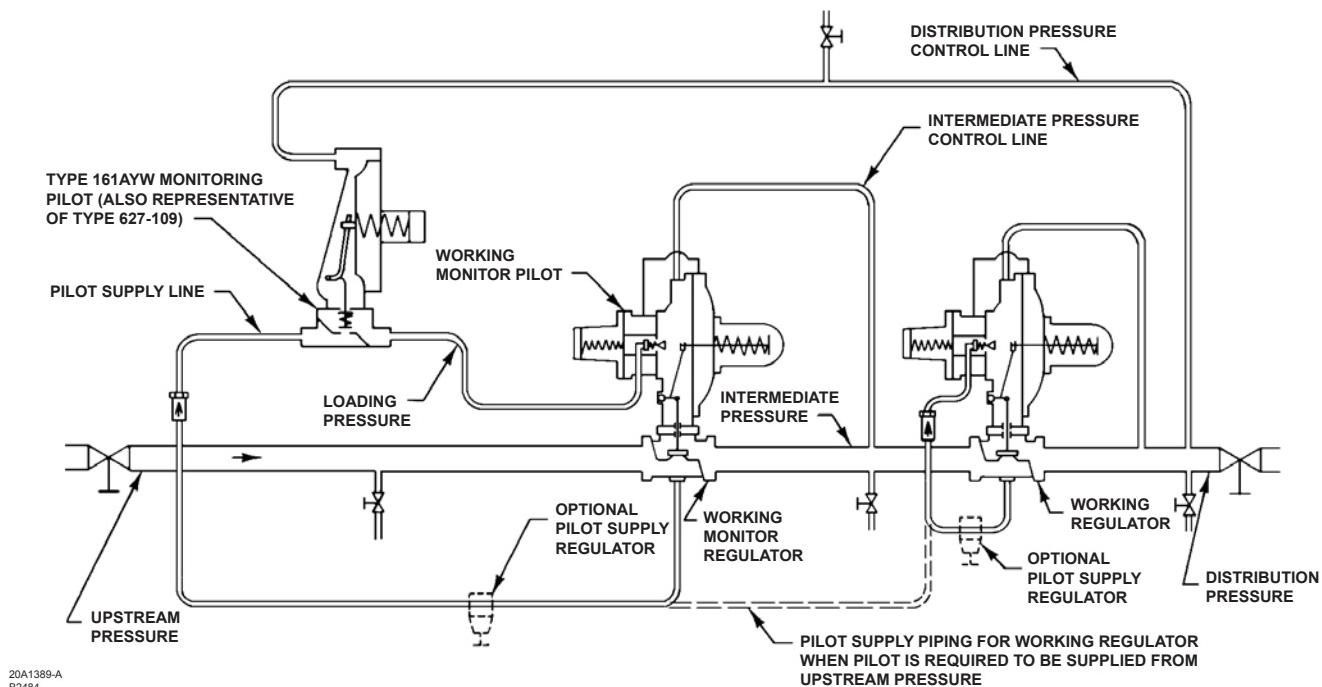

Figure 4. Working Monitor Installation
through the relief valve body (J) (Figure 4). Since loading pressure needs to exceed outlet pressure only moderately to stroke the main valve fully open, a continued increase in loading pressure differential extends the main diaphragm (E) and the pusher post assembly (K) far enough to separate the bleed valve (D) and the bleed orifice (H). This permits quick dumping of excess loading pressure into the downstream system.
On a working monitor installation (Figure 4), the control line of the monitoring pilot is connected downstream of the working regulator. During normal operation, distribution pressure causes the monitoring pilot to stand wide open. Full pilot supply pressure enters the working monitor pilot and permits the working monitor regulator to control at its intermediate pressure setting.